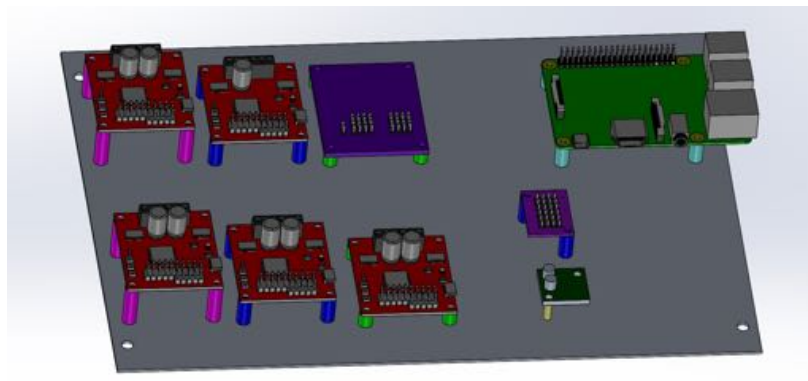

Figure 8: Electronics Board Step 2
2. **Mounting the Electronics:** Take the Raspberry Pi **E1**, RoboClaws **E2**, and voltage regulator **E4** and mount them in the locations shown in Figure 8, again using the screws **B8** and **B10** corresponding with each standoff.